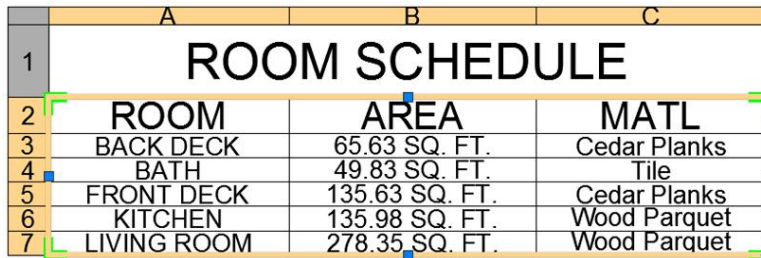

FIGURE 9.81: Selecting multiple table cells
4. Select the ROOM cell (A2), press and hold the Shift key, and select the lower-right cell C7, as shown in Figure 9.81.